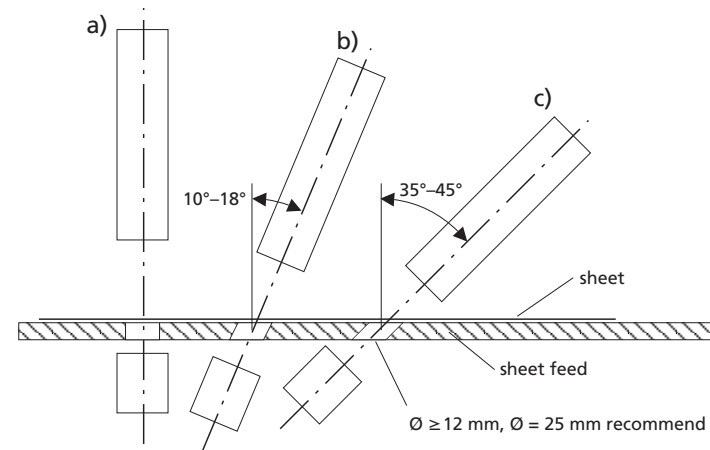

Fig. 6: Installation positions
- When working with papers and sheet metals up to 0.4 mm, we recommend you to install the dbk perpendicular to the sheet (see fig. 6 a).
- If you install the transmitter in a recessed position or position a sheet guide between the transmitter and receiver, the hole must have a minimum diameter of ≥ 12 mm, but we recommend a diameter of 18 mm (fig. 6).